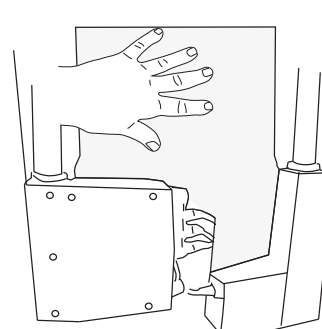
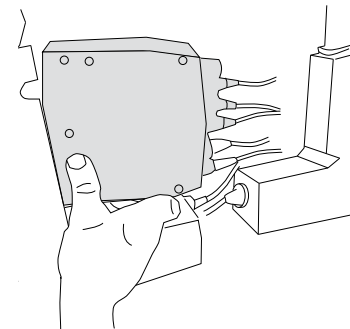

Figure 46.
Figure 47.
5. Push inner shroud forward (Figure 46) while sliding the control box off of the actuator (Figure 47).